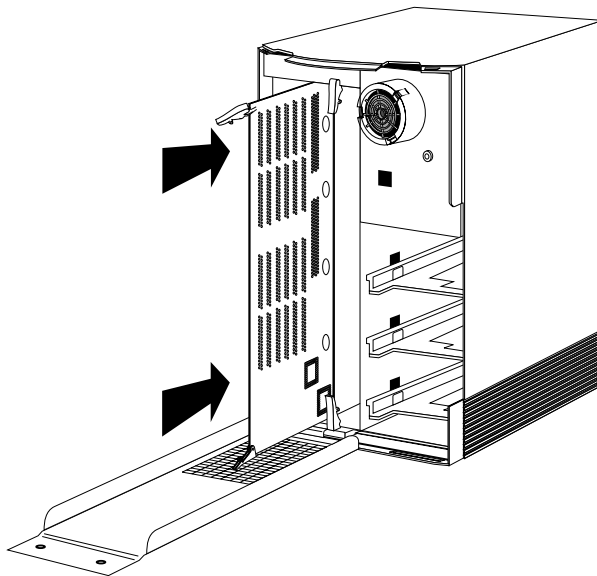

Figure 6-26 Installing the CPU Board
- Place the board in the chassis so the lever labelled **CPU** lines up with **CPU** on the Indigo chassis. The SIMMs should be facing left, as shown in Figure 6-26.